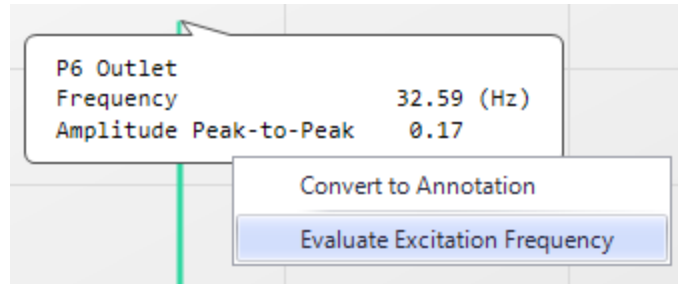

Figure 12: Right Click on the Dialog flag to evaluate the frequency
- c. Right-click on the dialog flag that appears on the peak of this frequency as shown in Figure 12.